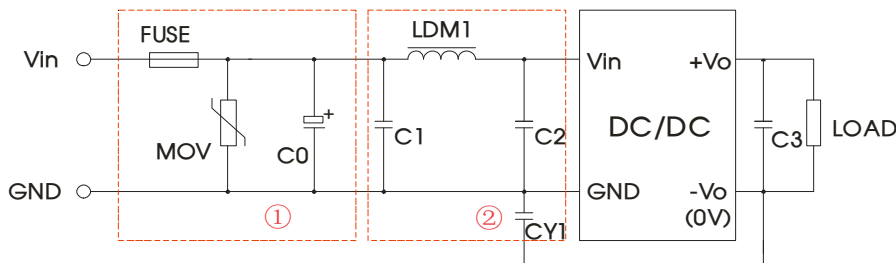

Fig. 3
Note: ①.Part ① in the Fig. 3 is used for EMS test and part ② for EMI filtering, selected based on needs.
②.If there is no recommended parameters, the model no require the external component.